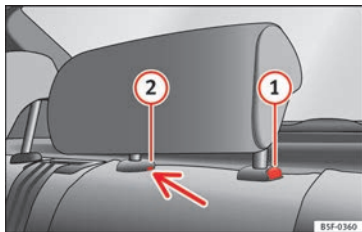

Fig. 146 Rear centre head restraint: release point.
- To set the head restraint lower down, press the  » Fig. 146 button and move it downwards.
- Press button  » Fig. 146, while simultaneously pressing on the security hole  » Fig. 146 with a flat screwdriver a maximum of 5 mm wide, and remove the head restraint.